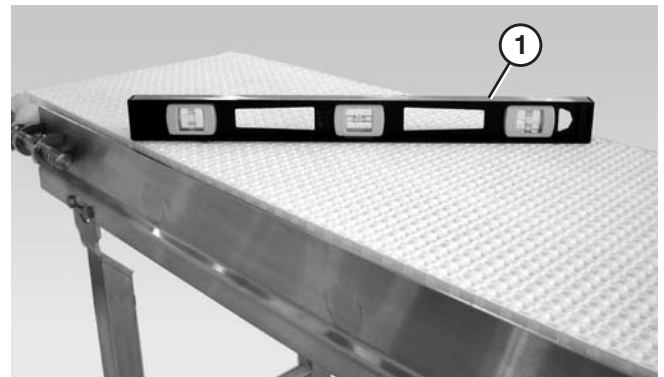

Figure 14
4. Use a level (Figure 14, item 1) to verify that both stand legs are the same height.